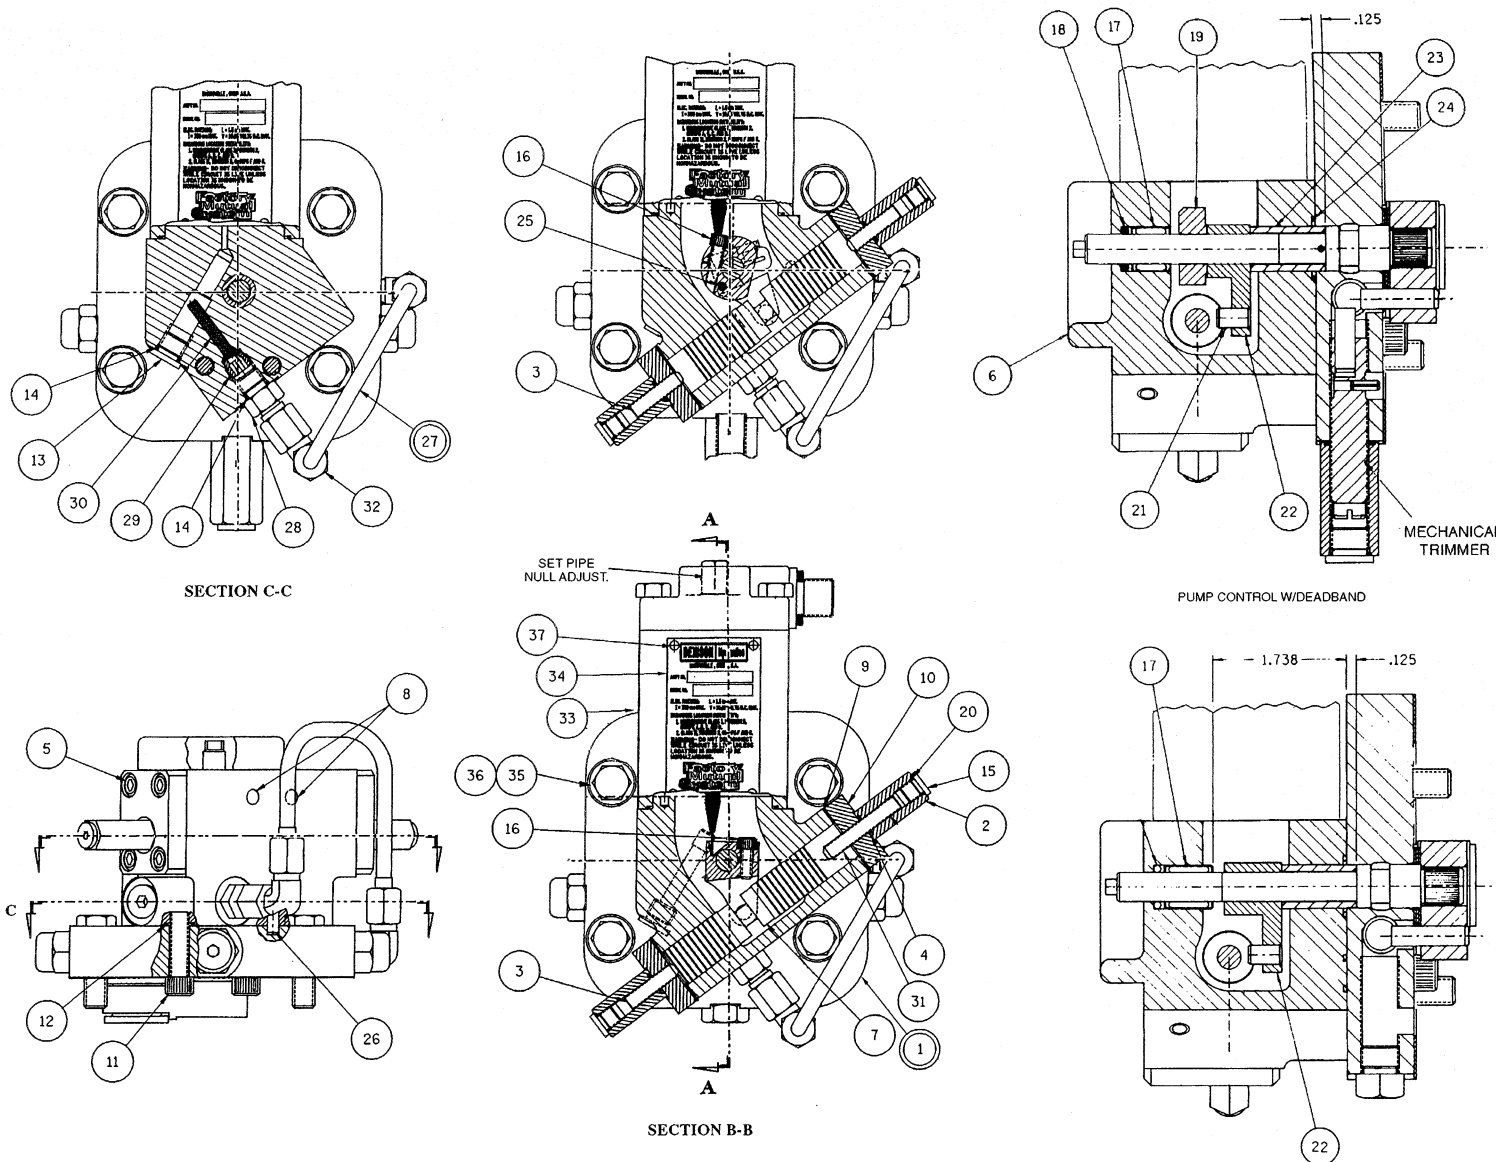

FIGURE 5A
*For Figure 5A-1 - Servo for electric